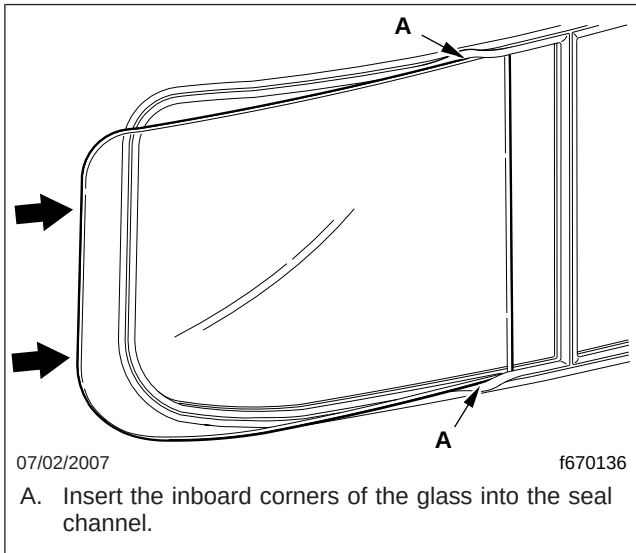

Fig. 3, Inserting Windshield Glass Into the Seal Channel
13. Insert the inboard corners of the new windshield glass into the seal channel, then push the glass inboard into the center seal; see Fig. 3.